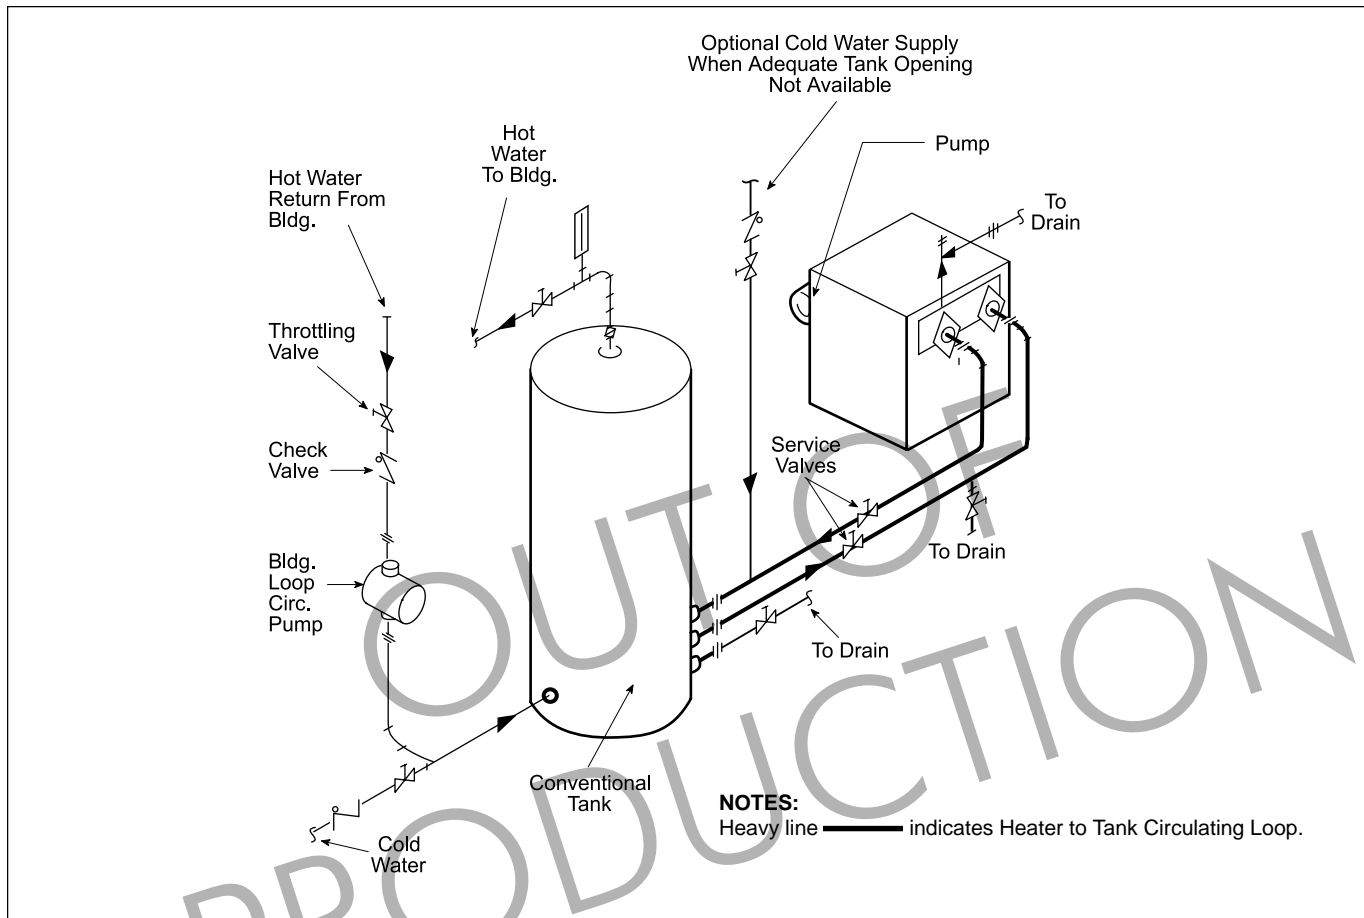

Figure 12. Hot Water Supply System with Vertical Tank.
1. The factory provided pump on **PW** heaters are sized to provide proper circulation through the heater and heater-to-tank circulation loop (see Figures 12, 13 and 14). If the heater-to-tank circulation loop **does not contain more than 6 elbows and 30 feet of pipe**, use pipe fittings in the loop no smaller than the following: